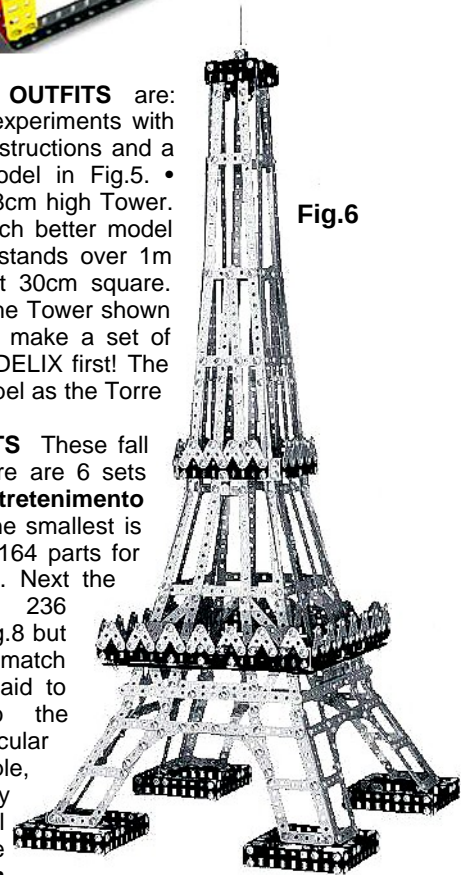

Fig.6
• **Torre Eiffel Grand**, a much better model (Fig.6), with 1889 parts. It stands over 1m high and the base is about 30cm square. The lid label is yellow with the Tower shown on it.